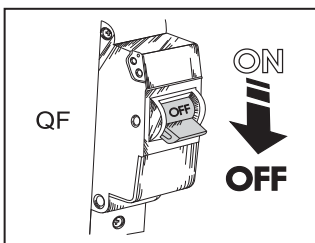

Fig. 21
Disconnect the fan from power mains prior to any maintenance operations, fig. 21.
1. Cut power supply off, fig. 21;